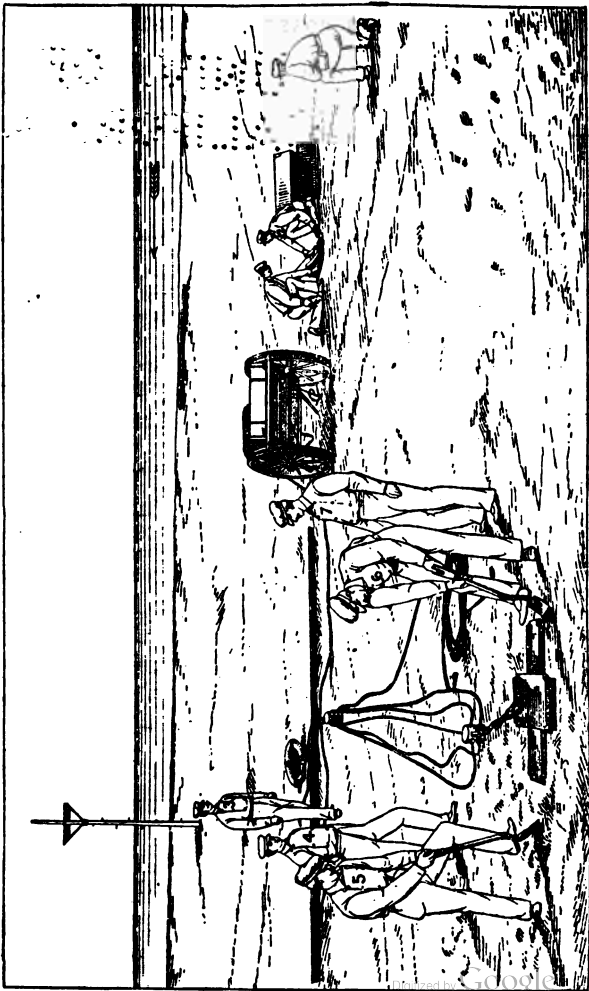

FIG. 4.—Relative positions of men while placing apparatus.
**380. (1) Action.**—The relative positions assumed by the men for the purpose of placing the apparatus are shown by fig. 4. The current is supposed to be running from the right, as shown by the arrow.
(2) Officer in charge puts on his haversack; *No. 4* throws buoy off the cart; *Nos. 5, 6,* and *7* unload the shovels, pick, and sand anchor, and proceed at once to bury the sand anchor where directed by the officer in charge. The sand anchor must be opened, its sides at right angles to each other, and buried upon its flat in a narrow trench of sufficient depth, say 2 feet, and the trench then filled in solidly about it. *Nos. 2* and *3* remove the shot-line box. The officer in charge and *No. 1* remove the gun, and place it in position four or five paces to windward of the cart; *Nos. 2* and *3* place the shot-line box, inverted, on a line with the muzzle of the gun, and 3 feet to windward (wind), unless the wind is directly on shore, when they will place it to the right, and, after lifting the pins clear of the line, will cant the box in the direction of the wreck.
(3) If through carelessness the shot line has been faked too tightly upon the pins, it should not be forced off the pins by the bottom board, which is liable to split, but the frame should be raised and a few of the bottom fakes removed with the hand when the remainder will fall off into its place in the box.
(4) Officer in charge loads with cartridges, *No. 1* provides the shot, wipes and holds it while *No. 2* wets a fathom of the shot line and bends it into the shank with three half hitches. *No. 1* then inserts the shot into the bore from side of gun, forcing it